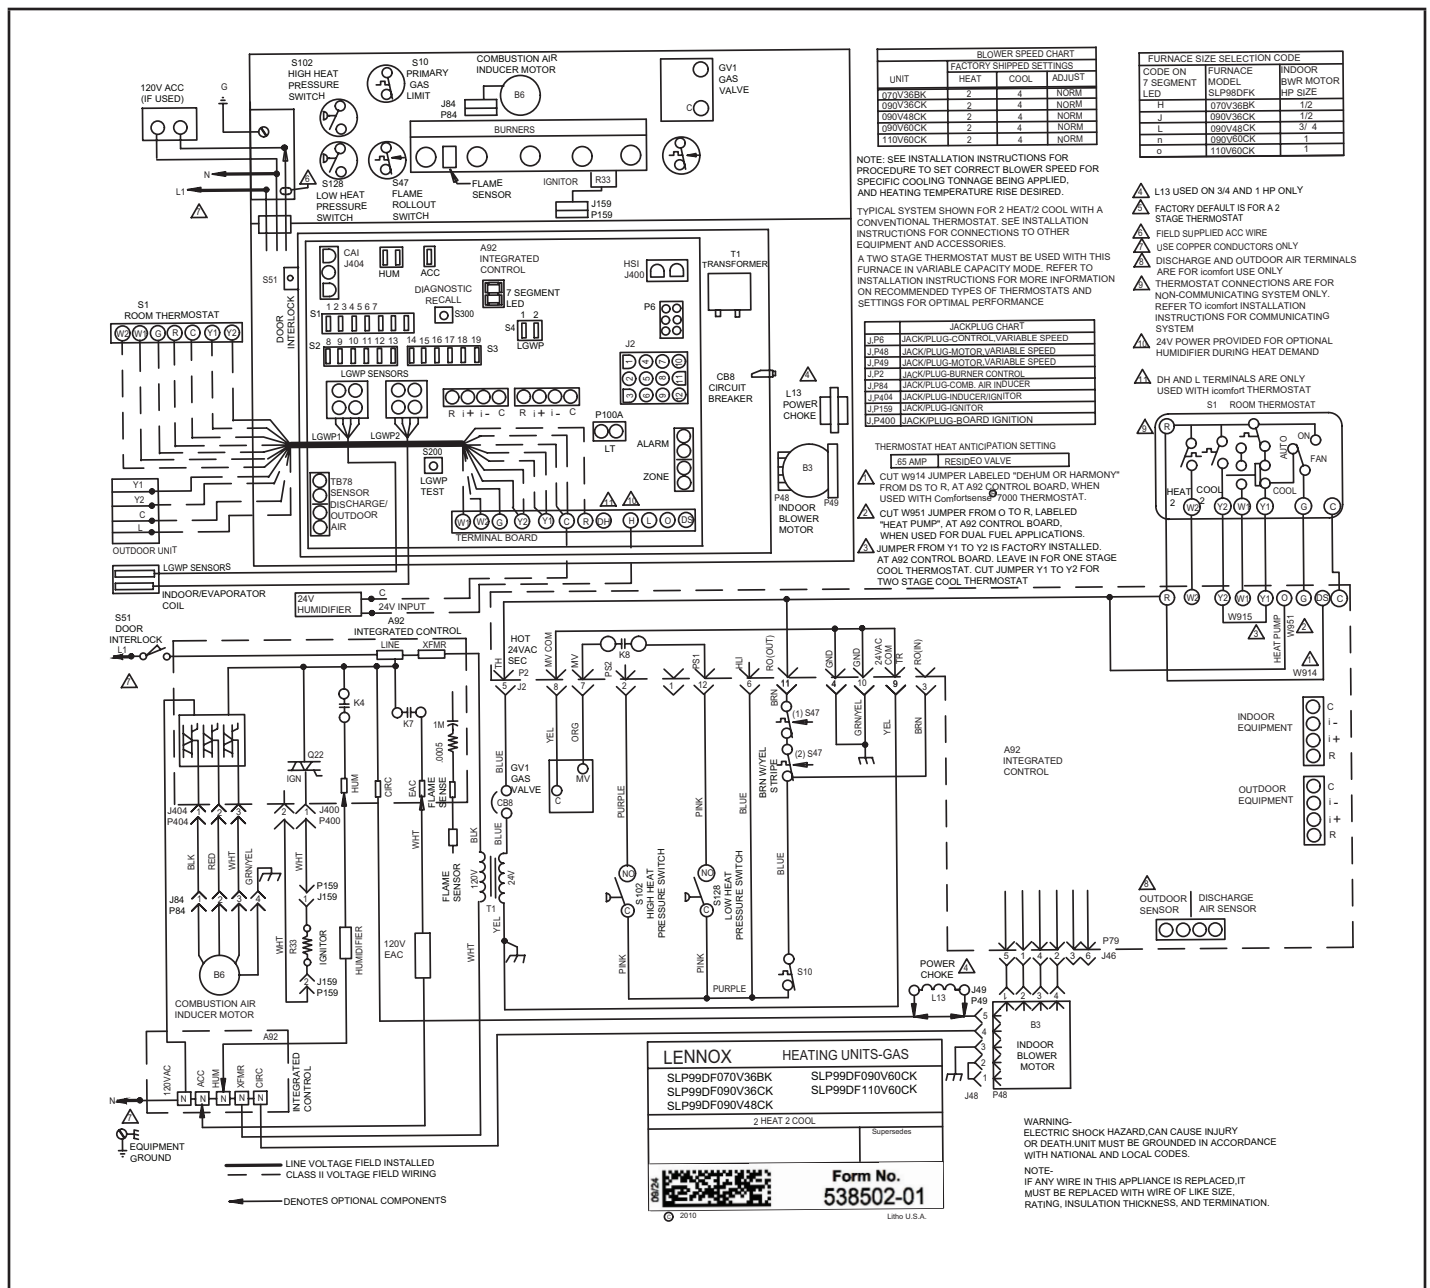

FIGURE 49
- 5 - Complete the wiring connections to the equipment. Use the provided unit wiring diagram and field wiring diagram shown in FIGURE 49 and TABLE 15. Use 18-gauge wire or larger that is suitable for Class II rating for thermostat connections.